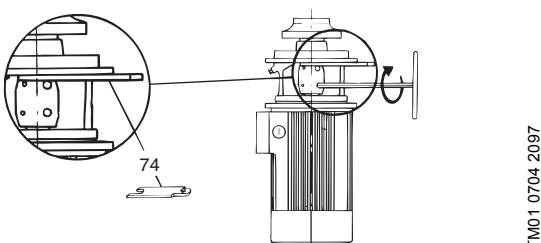

Fig. 4
1. Place the shaft holder pos. *D* into the vice. Fit the pin pos. 10 in the shaft. Fit the shaft in the shaft holder (motor end upwards).
2. Fit the split cone pos. 46b, the impeller pos. 49 and the nut pos. 48 (left-hand thread) to the shaft and tighten the nut to 35 Nm.
3. Slacken the vice and remove the shaft pos. 51 and the pin pos. 10.
7. Carefully pass the shaft pos. 51 with the rotating shaft seal part and the impeller down through the motor stool and home against the recess of the motor shaft.
8. Fit the coupling pos. 8, the pin pos. 10 and the screws pos. 9. Apply loctite and tighten the screws diagonally to the torque stated, see section *4. Torques and lubricants*.
If the pump is fitted with a NEMA motor, insert the adjusting for pos. 74 above the coupling, see fig. 4.